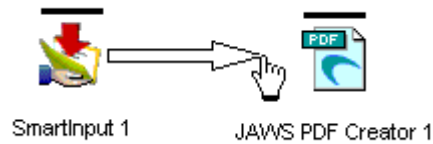

Figure 4.4 Creating a link
6. With the Link tool activated, on the Design palette click the SmartInput module and move the pointer to the PDF module. Notice a link arrow is drawn from the SmartInput module and the pointer changes to a hand, as shown in Figure 4.4.